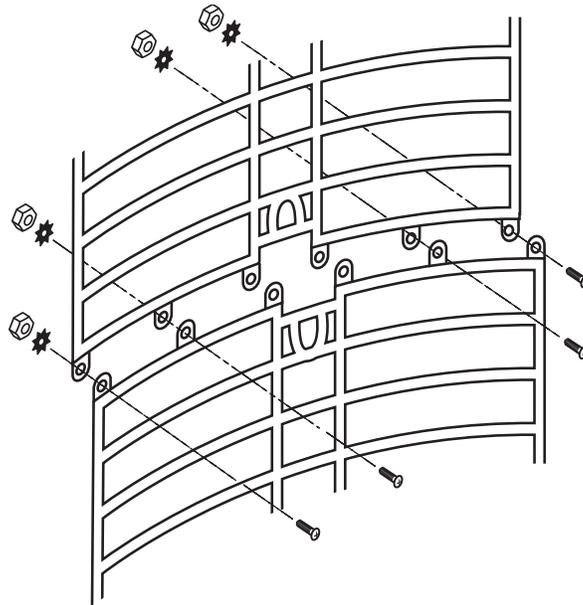

Figure 3-3. Securing the Antenna with the Keps Nuts.
1. To assemble the two halves, insert the (4) #8-32 machine screws through the front. Secure with the keps nuts on the back (see **Figure 3-3**).